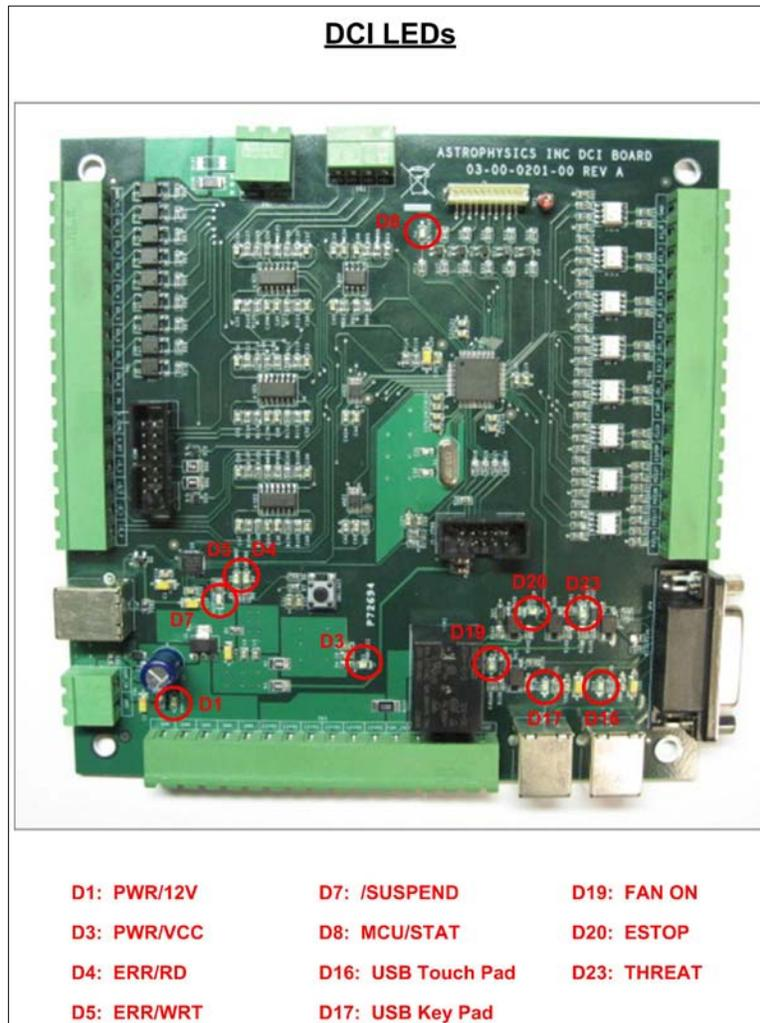

Figure 175: DCI Board LEDs
1. DCI BOARD LEDs (See Figure 175 below)